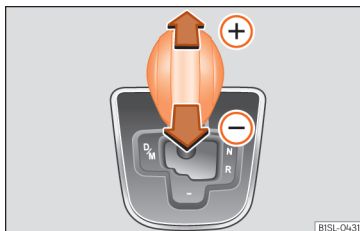

Fig. 164 Lever in the Tiptronic position
- Press the lever forwards **+** or backwards **-** to move up or down a gear » **Fig. 164**.